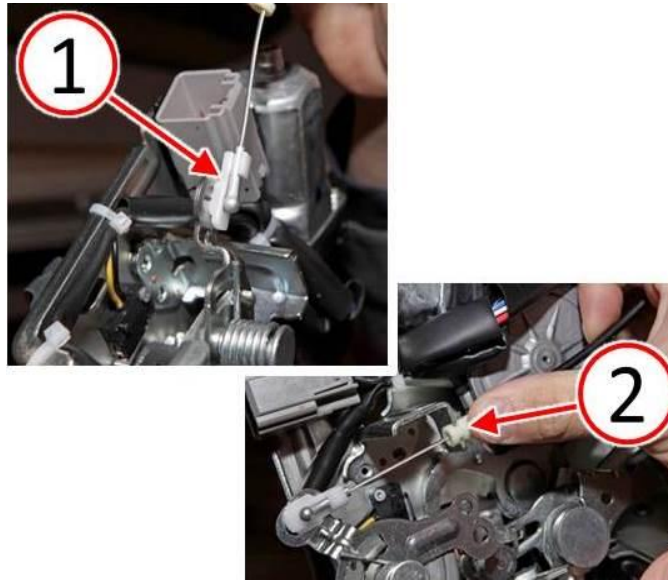

Fig. 6 Connect Liftgate Latch Cable
12. Connect the latch cable end (1) to the liftgate latch (Fig. 6).
13. Install the latch cable ferrule (2) to the liftgate latch (Fig. 6).